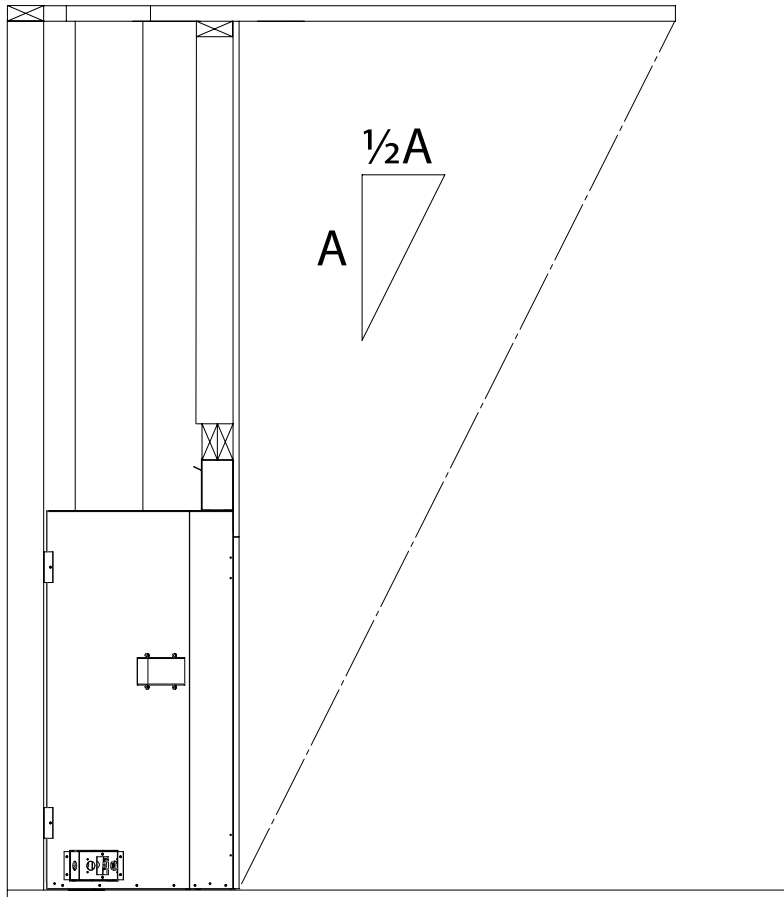

Figure 54: Overhang Depth Requirements
- The fireplace must be protected by an overhang with a depth that is at least equal to half of its height from the base of the fireplace, as shown in Figure 54.